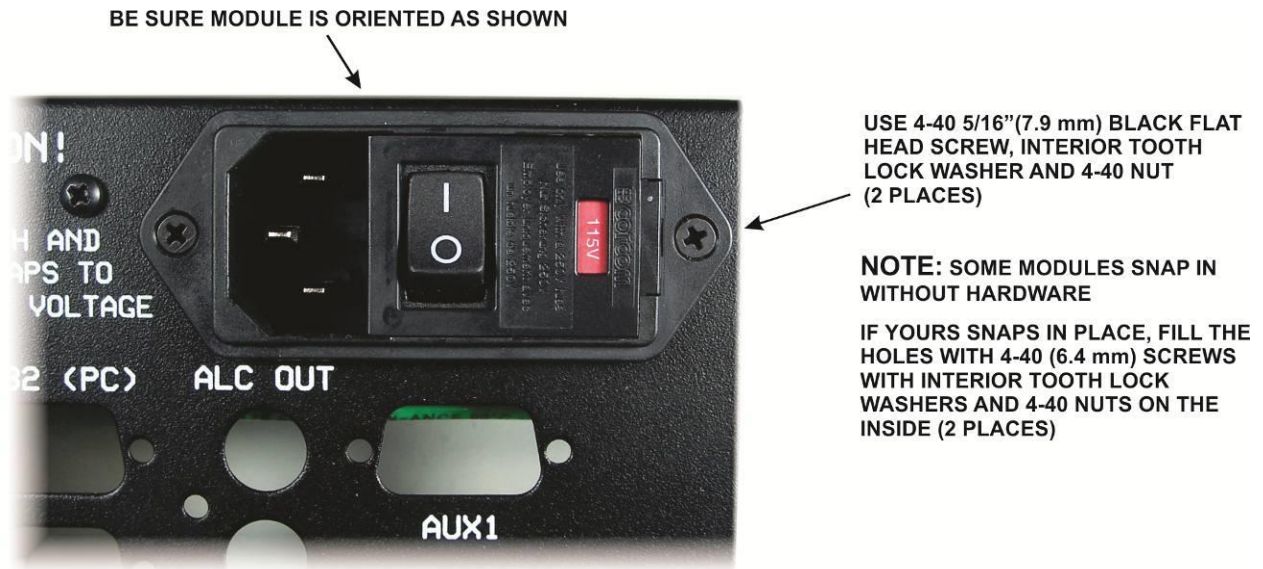

Figure 22. Installing the Power Entry Module.
- ❑ Install the mains power entry module as shown in Figure 22.